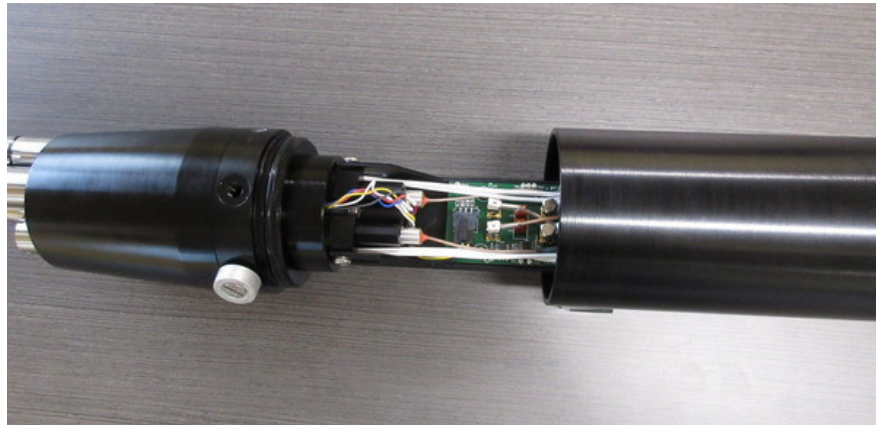

Figure 19: Sliding electronics out of pressure tube
2. Slowly slide the pressure tube past the internal frame (Figure 19), exposing the internal electronics. This step is best completed with two people to prevent damaging the electronics when removing the tube from the front bulkhead.